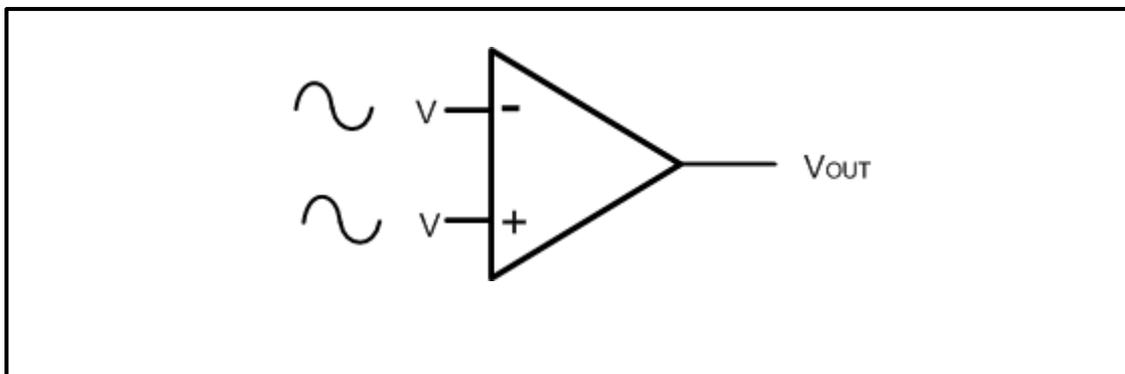

FIGURE 7.1: OP AMP
- 7.6 Refer to FIGURE 7.1 and draw the output of the ideal op amp.